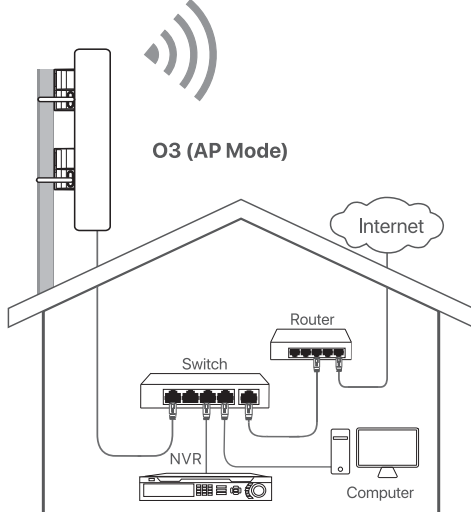

Figure 1
- The device (transmitter in AP mode) with LED1, LED2 and LED3 solid on should be connected to the switch connecting to a network video recorder (NVR). See **Figure 1**.